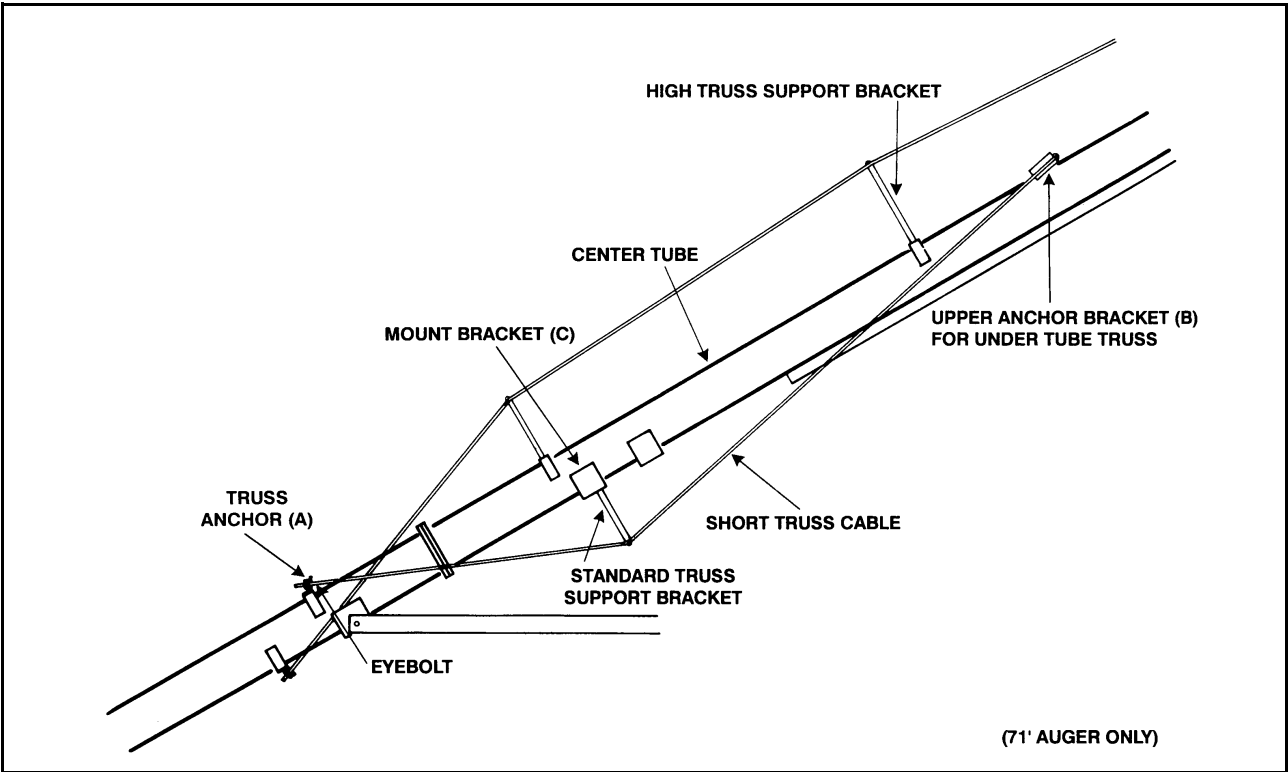

Figure 3.14
- ➡ 9. For 71' augers only (Figure 3.14).
- Fasten short truss anchor (A) to lower auger tube with 7/16" x 1" bolts and locknuts.
- Fasten high truss support bracket to mount (C) on bottom of center tube with 7/16" x 1" bolts and locknuts.
- Pull truss cable over truss support bracket, around upper truss anchor (B) and back over truss support bracket to short truss anchor, holding it loosely in place with one cable clamp at upper truss anchor and 2 cable clamps at truss support bracket.